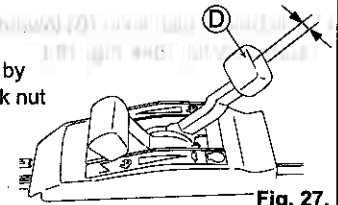

Fig. 27.
Adjust the play of Gearshift lever (D) to 1 - 3 mm as shown in. (See Fig. 27.)